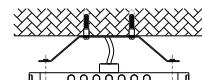

Figure 10
3. Mount the fixture on the mounting plate by supplied screws.(Figure 10)